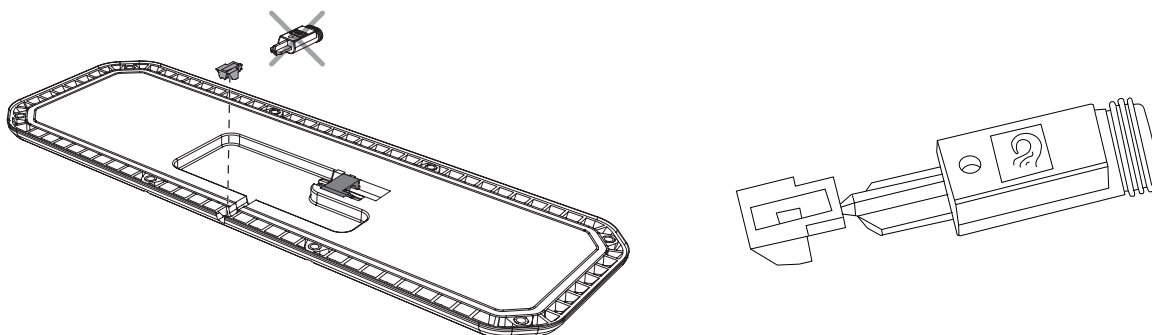

Figure 30. Installation of plug for sealing UCU.
4. Carefully break off the outer part of the plug and place in the recess. See Figure 30.